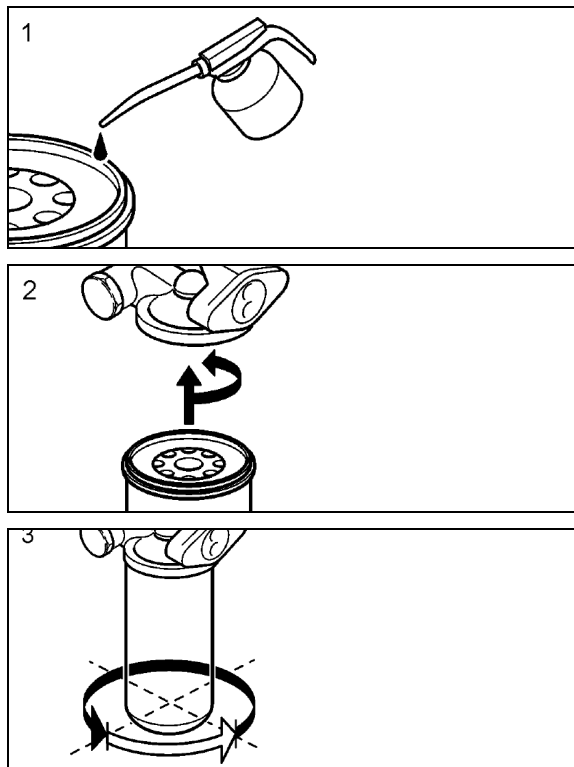

FIGURE 11: OIL FILTER REPLACEMENT
- Prefill the new oil filters with approved engine oil. Refer to Figure 11, also, lubricate the filter gaskets with engine oil (1). Hand tighten the oil filters until they contact the sealing surface of the oil filter housing (2). Manually tighten the oil filters an additional $\frac{3}{4}$ to 1 full turn (3).